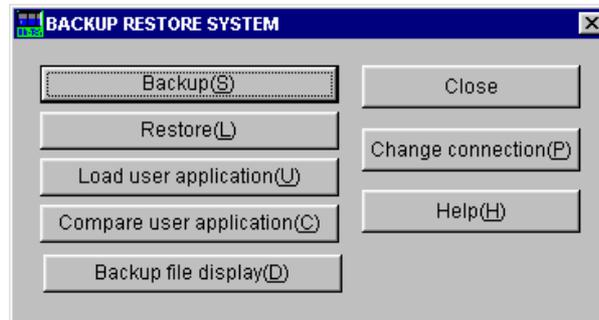

Figure 2-1 [BACKUP RESTORE SYSTEM] Window
Click the or button on the [BACKUP RESTORE SYSTEM] window shown in Figure 2-1.
- (1) Click the **Backup** button on the [BACKUP RESTORE SYSTEM] window (Figure 2-1). The [Backup] window is displayed.
- (1) Click the button on the [BACKUP RESTORE SYSTEM] window (Figure 2-1).
- (2) The [Restore] window (file selection) is displayed.